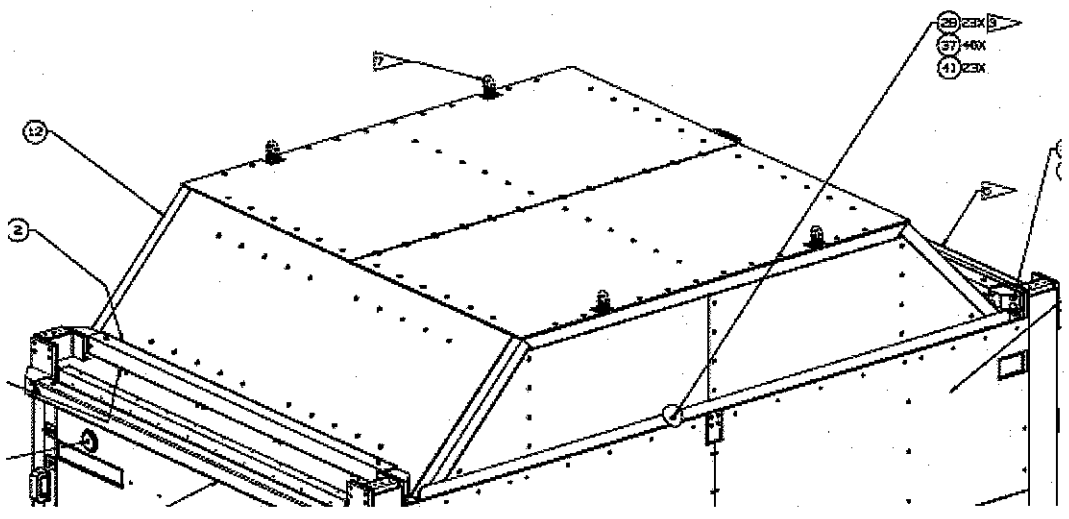

Figure 2
8. Attach four (4) straps that are rated for at least 750 lbs to the swivel hoist rings on the Cover Assembly, SEG38117057-301. The swivel hoist rings are identified with flag 7 in figure 2.